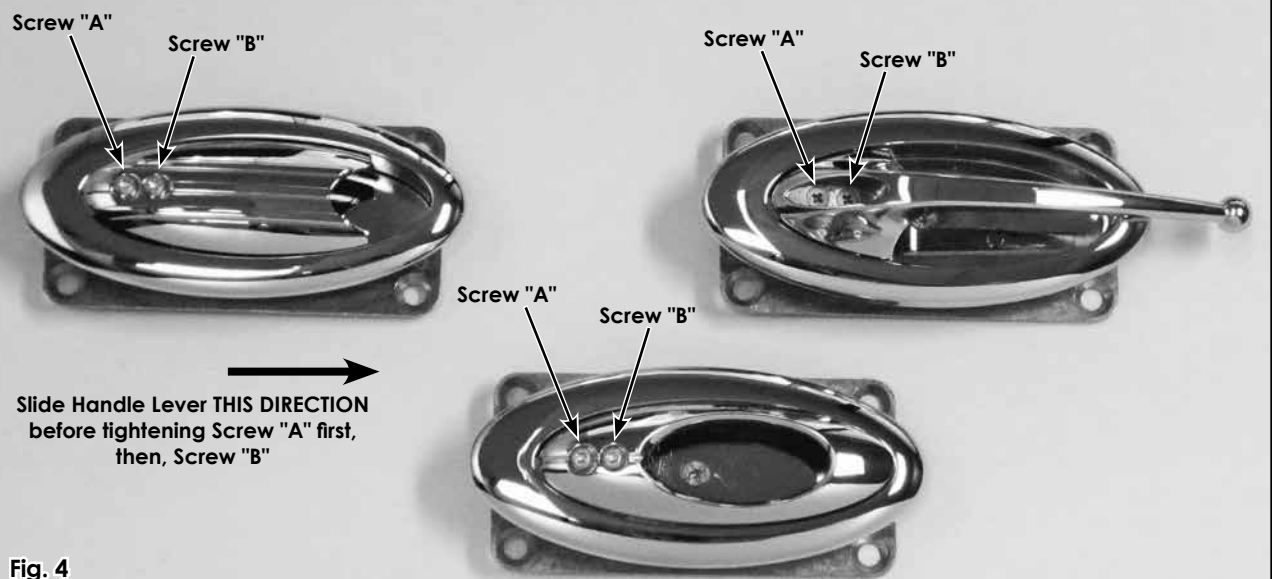

Fig. 4
Step 6: Position the handle lever on the base plate assembly. Loosely install both #4-40 x 1/4" screws. Slide the handle lever back as far as it will go, and tighten down screw "A" first. Then, tighten screw "B". **Fig. 4**
Step 15: Position the handle lever on the base plate assembly. Loosely install both of the #4-40 x 1/4" screws. Slide the handle lever back as far as it will go, and tighten down screw "A" first. Then, tighten screw "B". **Fig. 4** Check the operation of the Door Handle.